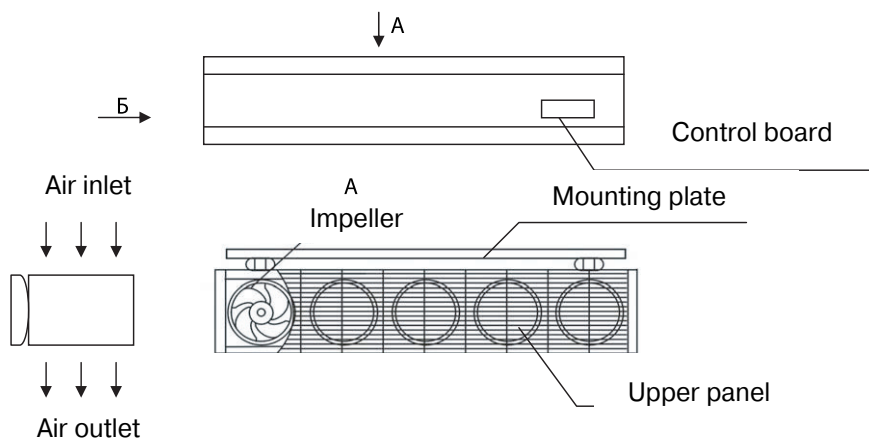

Figure 1– Air Curtain assembly.
4.1 Axial wind wheels type with motors are installed in metal cabinet of Air Curtain (Fig.1). The number of wind wheels is from 5 to 8 (depending on Model).